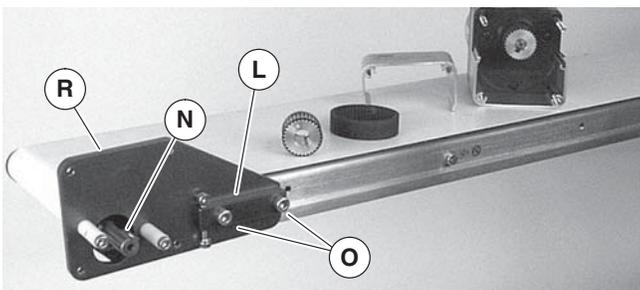

Figure 5
- Remove two (2) top screws (Q) and remove top cover (K).
- Attach mounting bracket (Figure 5, item R) and tensioner bar (L) with screws (O). Hand-tighten screws (O).
- Install key (Figure 5, item N).